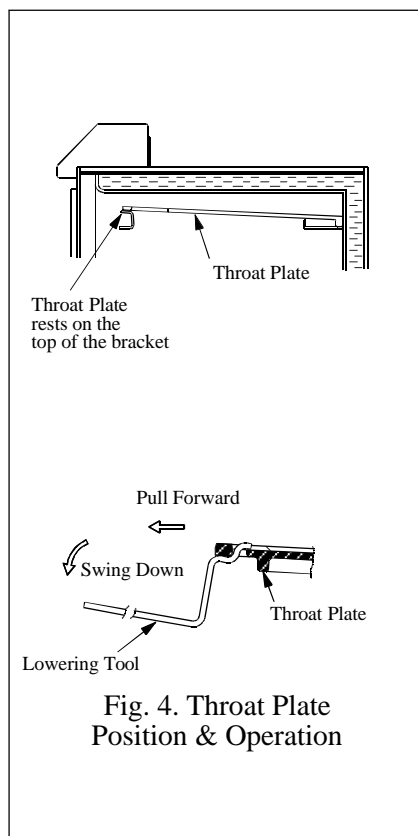

Fig. 4. Throat Plate Position & Operation
The throat plate and flueways may be cleaned with a low fire still burning. Lower the throat plate using the throat plate tool. To do this engage the end of the tool in the throat plate as shown in Fig. 4., pull the plate forward and then lower it. Use the scraper tool to push any sooty deposits up the plate until they fall off the back and into the fire. While the throat plate is in the lowered position also scrape any soot deposits from the sides and top of the firebox. Ensure that soot deposits are not allowed to build up on the side boiler faces because if the throat plate becomes tight between the faces this can cause it to fail prematurely.
Return the throat plate to its correct position - raise the front of the plate, push it back and then lower it onto the retaining lugs. The upper set of lugs are for use when burning smokeless fuels, (see Fig. 4.).
- b) the throat plate is fitted correctly (see Fig. 4.) and that it is not distorted.